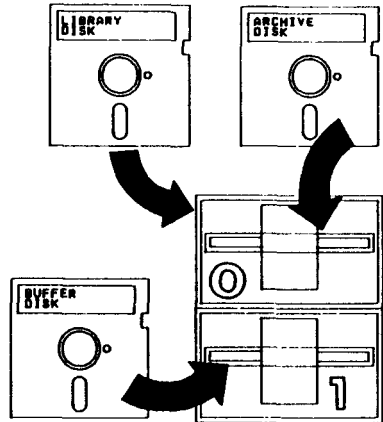

Fig 2
- 4 At this point, insert the Introductory Library disk into Drive 0 and insert the Buffer disk into Drive 1 (Fig 2).